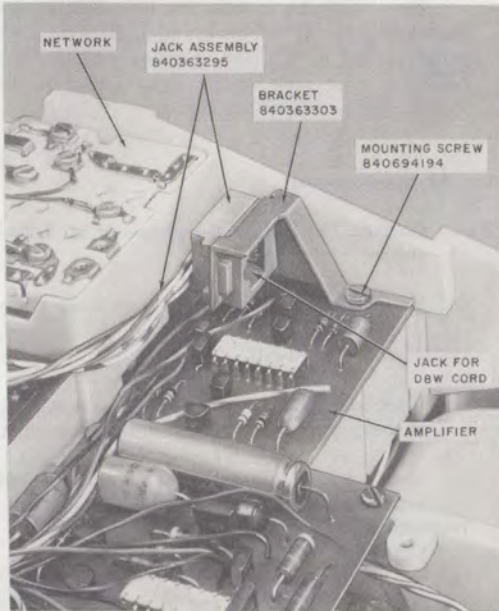

Fig. 41—Installation of Personal Line Jack Assembly
(1) Remove the lower housing (paragraph 5.13).
(2) Turn the set over, remove the faceplate (paragraph 5.07), and move the DSS key aside (paragraph 5.23) to gain access to the interconnect field.
- (3) Install the jack assembly as described in paragraph 3.52(a)(3).
- (4) Replace the DSS key (paragraph 5.24) and the faceplate (paragraph 5.09).
- (5) Turn the set over and attach the modular jack to the chassis through the right-hand edge of the amplifier with the bracket and screw from the kit of parts (Fig. 41).